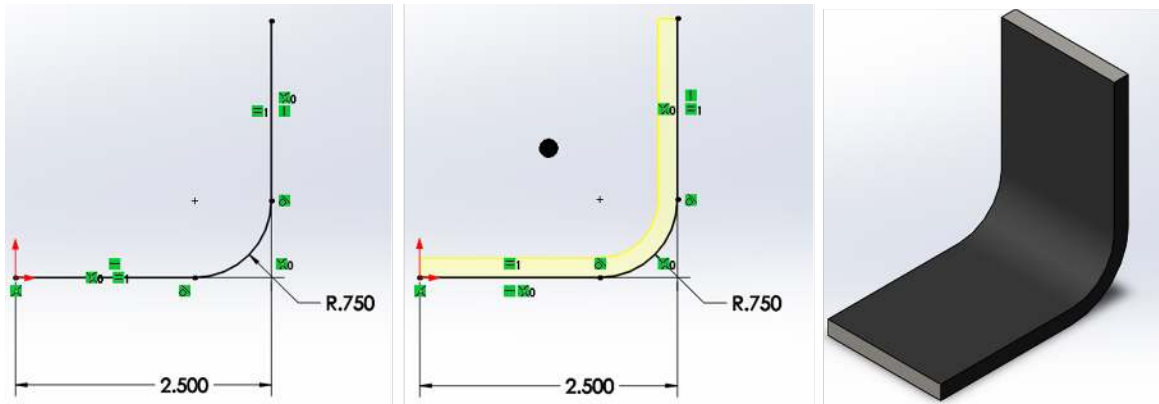

Figure 5.9 Process of Creating a Thin Feature
- Sketch on the Right Plane a fully-defined profile such as is shown in figures 5.9 and 5.10.